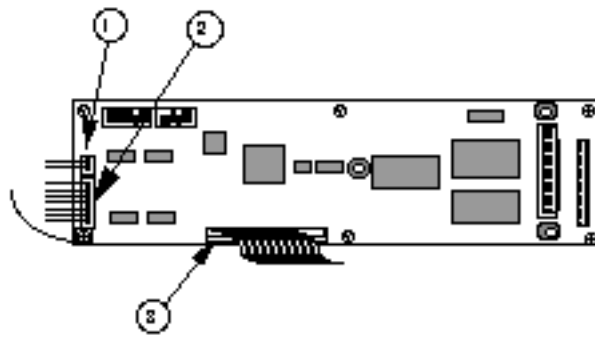

FIGURE 1 1
11. Release the connectors at locations CN3 and CN9 (Figure 1 1, #1 and #2) from the left side of the main logic board. Release the gray ribbon connector (Figure 1 1, #3).